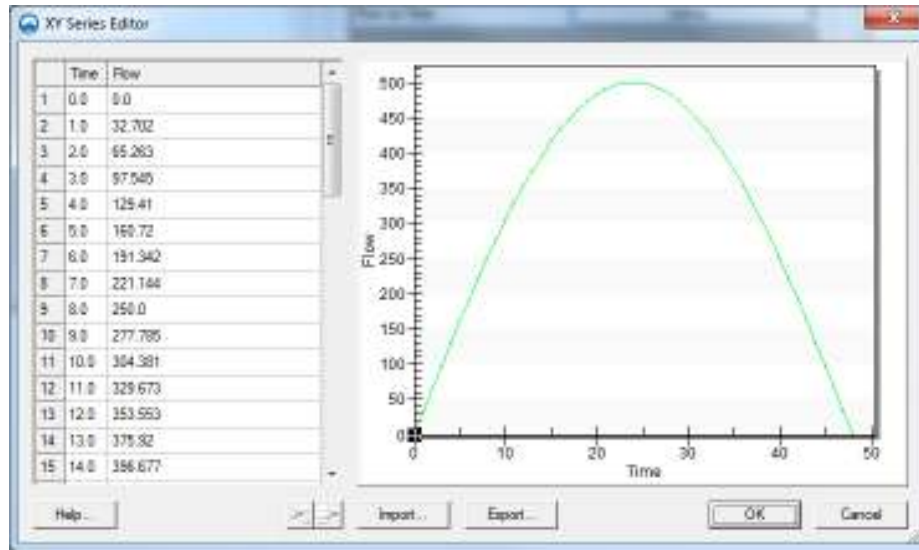

Figure 9
6. Open the *Flow.csv* file, then copy and paste the values into the *XY Series Editor*. Figure 9 shows the flow data.